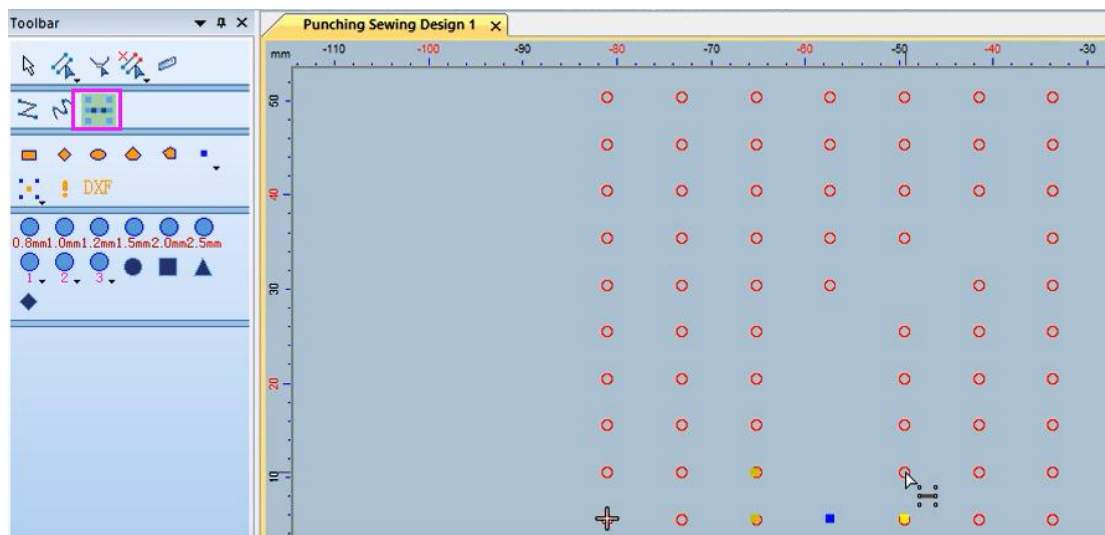

图 1 直线缝线
第四步：使用左侧工具栏  点击左右两点后中心会生成 1 个缝线点，从第 2 行开始按住“Shift”工具点击左右两个点，同样会在中心生成一个缝线点，（如图 1 直线缝线）。鼠标移动到要进行偏移的位置同时按住“Ctrl”和鼠标左键，进行偏移设置，设置好后点击确定（如图 2 偏移缝线）。按“Enter”键确定（如图 3）。
Step 4: Use the left toolbar to click on the left and right points, and a stitch point will be generated in the center. From the second row, hold down the "Shift" tool and click on the left and right points, and a stitch point will also be generated in the center. (Straight sutures as shown in Figure 1). Move the mouse to the position to be offset while holding down "Ctrl" and the left mouse button to set the offset. After setting, click OK (as shown in Figure 2 to offset the suture). Press the "Enter" key to confirm (Figure 3).